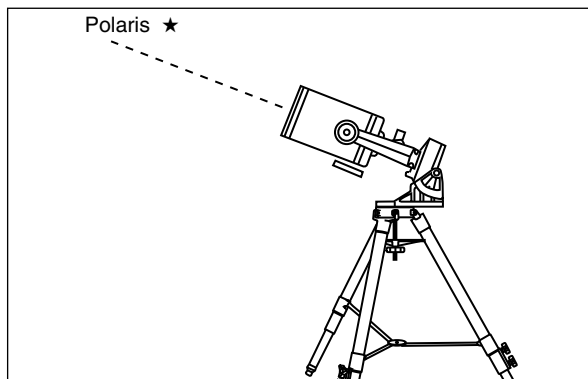

Fig. 24: Mount too low.
- a. If the star drifts South, (or down) the telescope's polar axis is pointing too low (Fig. 24).